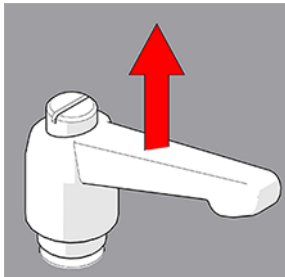

Figure 3-45 Pull ratchet handle
1. Pull the ratchet lever away from the base of which it is connected (see Figure 3-45 on page 70).